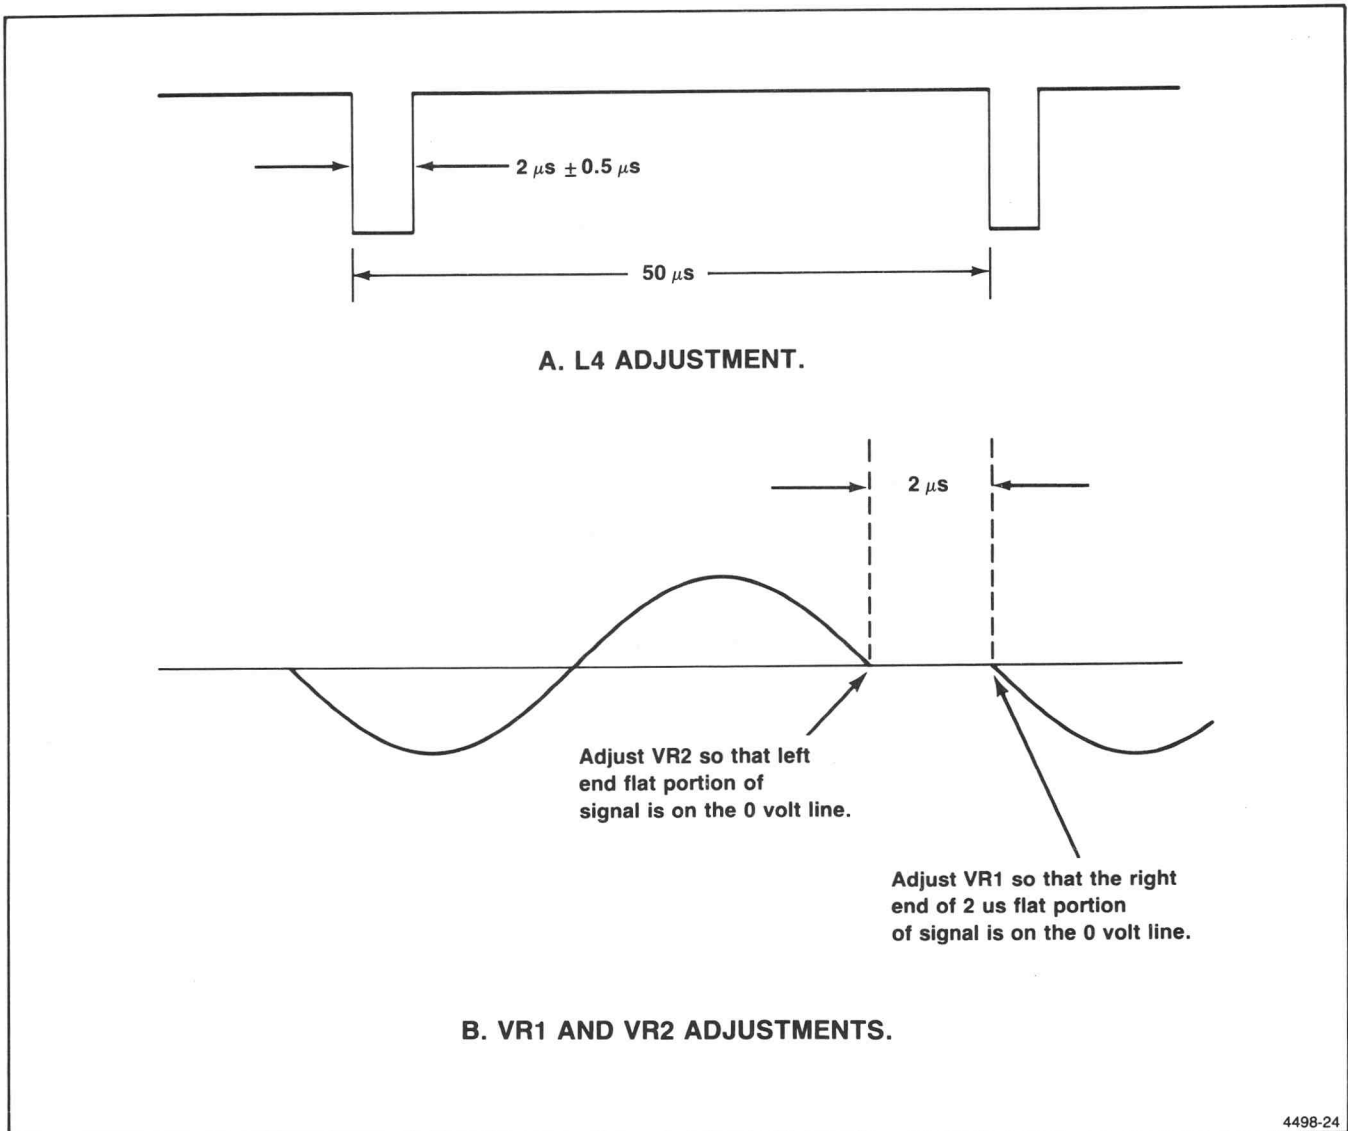
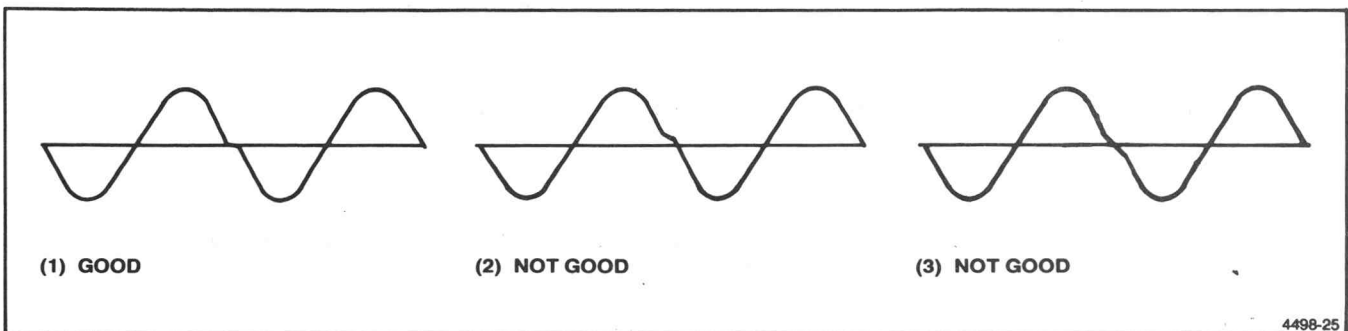

Figure 5-6. Oscillator Waveform Adjustments.
Figure 5-7. Good and Poor Oscillator Waveforms.
12. Adjust VR2 so that the left end of the 2uS flat portion of the waveform is on the 0 volt line (see Figure 5-6).
13. Adjust VR1 so that the right end of the 2uS flat portion of the waveform is on the 0 volt line (see Figure 5-6). Figure 5-7 shows how the resulting signal should look.